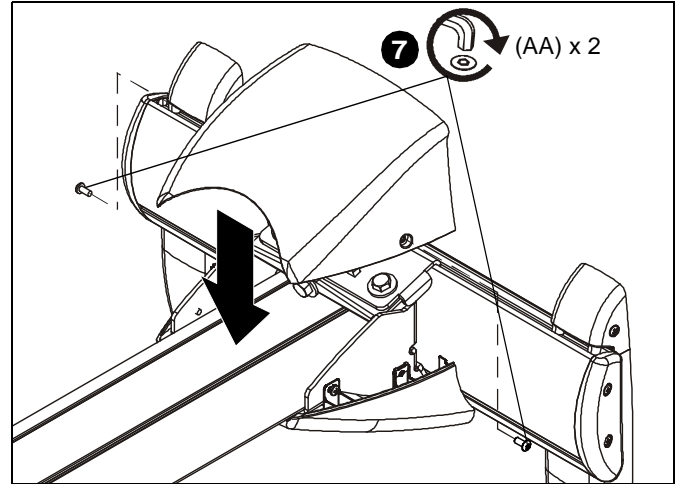

Figure 46
- Replace upper cover and install two 8-32 x 3/8" button head security screws (AA) into upper cover. (See Figure 46)